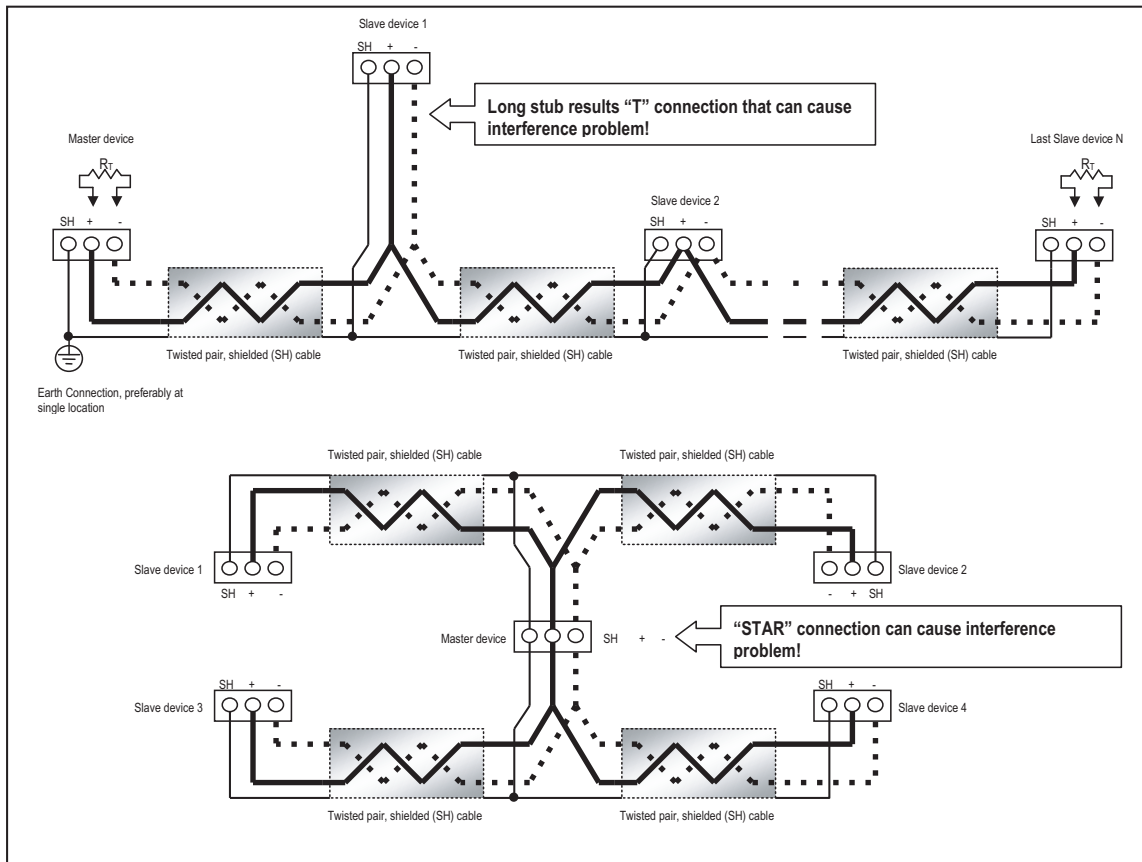

Figure 5.5: Incorrect “T” and “Star” Topologies
- Avoid both “star” and “tee” connections (see Figure 5.5). No more than two cables should be connected at any one point on an RS485 network, whether the connections are for devices, converters or terminal strips.